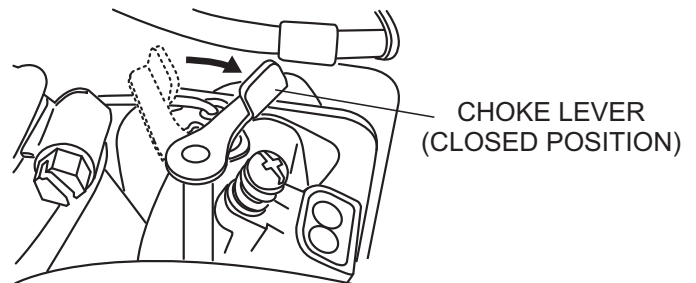

Figure 6. Choke Lever
5. If engine fails to start, move the choke lever (Figure 6) to the half open position to avoid flooding.